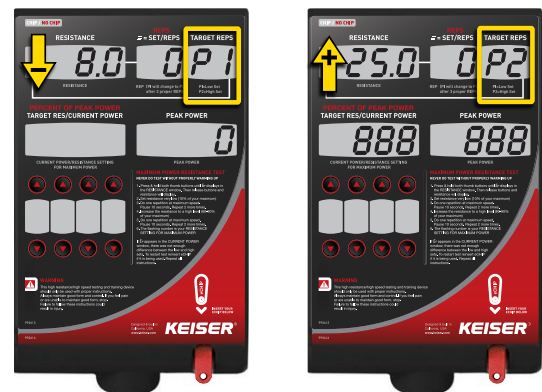

Figure 11. "P1" Low Resistance/High Speed and "P2" High Resistance/High Speed Display
3. Do one repetition at maximum speed. Pause 10 seconds. Repeat 2 more times. NOTE: "P2" appears in the TARGET REPS window to indicate the start of the second set of the Power Test (see Figure 11).